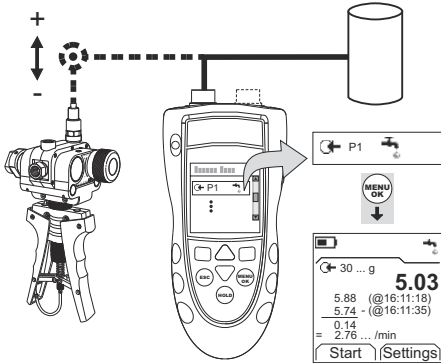

Figure 3: Example Configuration - Leak Test
1. Connect the instrument (Figure 3) and, if necessary, adjust the Set Up (Table 1).